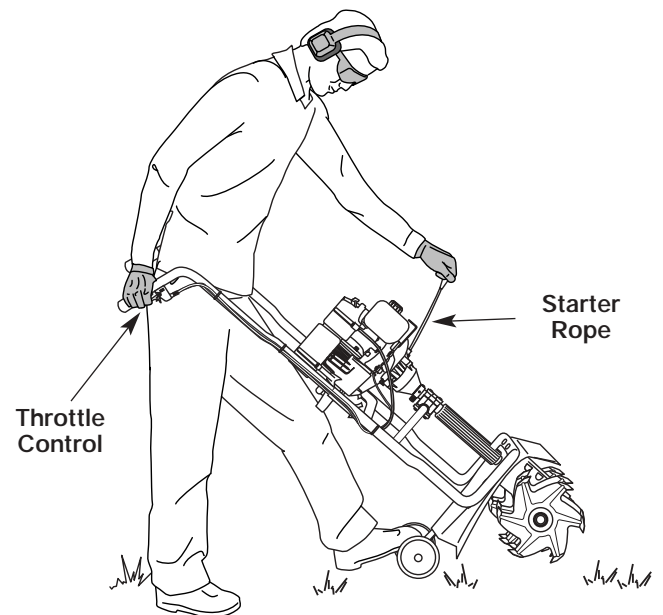

Fig. 8
**WARNING:** Avoid accidental starting. Make sure you are in the starting position when pulling the starter rope (Fig. 8). To avoid serious injury, the operator and unit must be in a stable position while starting.
5. Stand between the handlebars and support the unit by placing your left foot on the wheel bracket assembly and gripping the handlebar grip with your right hand (Fig. 8).
8. Pull starter rope briskly 1 to 3 times to start the engine (Fig. 8).
1. Release your hand from the throttle control (Fig. 8). Allow the engine to cool down by idling.